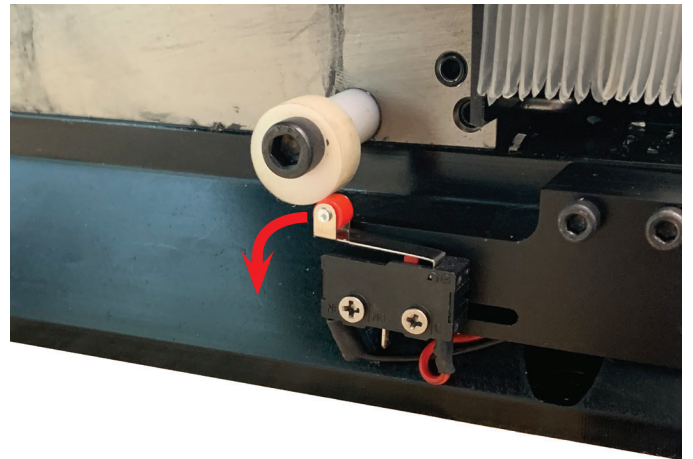

FIGURE 8—The red arrow shows how the limit switch should roll under the eccentric.
2. Figure 8 shows how the ball rolls to the bottom side of the eccentric as the Y-axis moves toward the stepper motor.